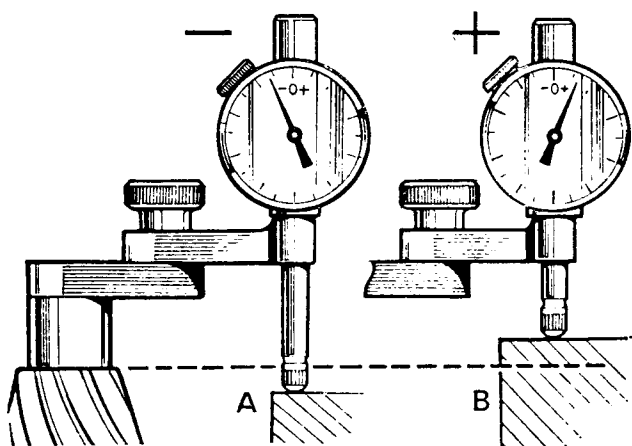

Fig J2.37
- (6) Refer to Fig J2.37. Where the stylus has moved down (indicating that the pinion is too high) record as a minus (-) figure (Fig J2.37A).